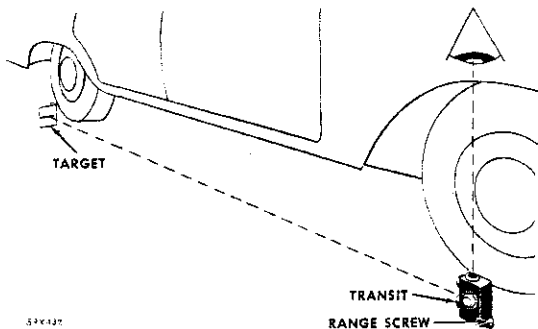

Fig. 90—Determining the Slope of the Floor (Typical)
- (1) For mechanical aim the slope of the floor should be known.
- (2) Place the transit on the floor in line with a vertical center line of the right front wheel (Fig. 90). Place the split image target in like position at the right rear wheel.
- (3) Adjust the range screw on the transit until the target split image coincides or merges into one unbroken line.